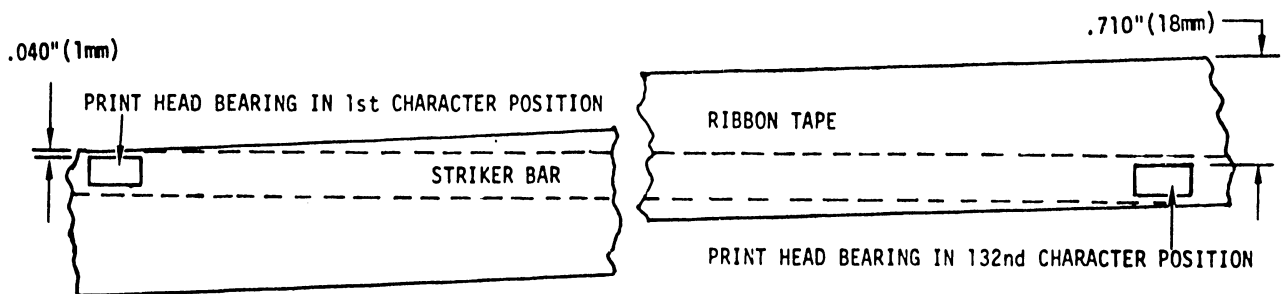

FIGURE 5-26 RIBBON HEIGHT AND ANGLE ADJUSTMENTS
- a) Move the carriage to the first character position (move carriage to photocoupler at first mark on timing fence). In this position there should be a distance of .040" (1 mm) from the top of the print head bearing to the top of the ribbon. (See Figure 5-26.)